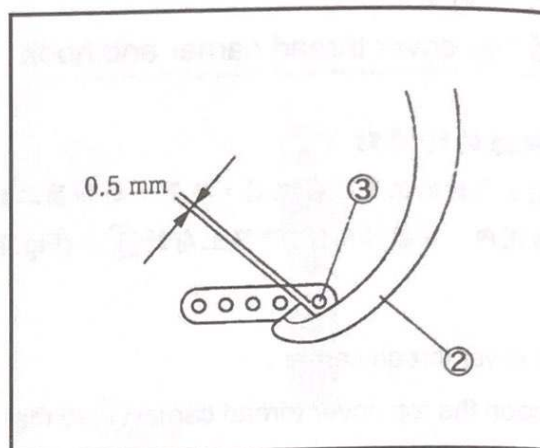

Fig.52
當大上勾針②停在最右邊時，和假針③要有 0.5mm 的間隙。(Fig.52)
When the hook ② moves at the extreme right, make the clearance between the hook ② and the retainer ③ to 0.5 mm. (Fig.52)